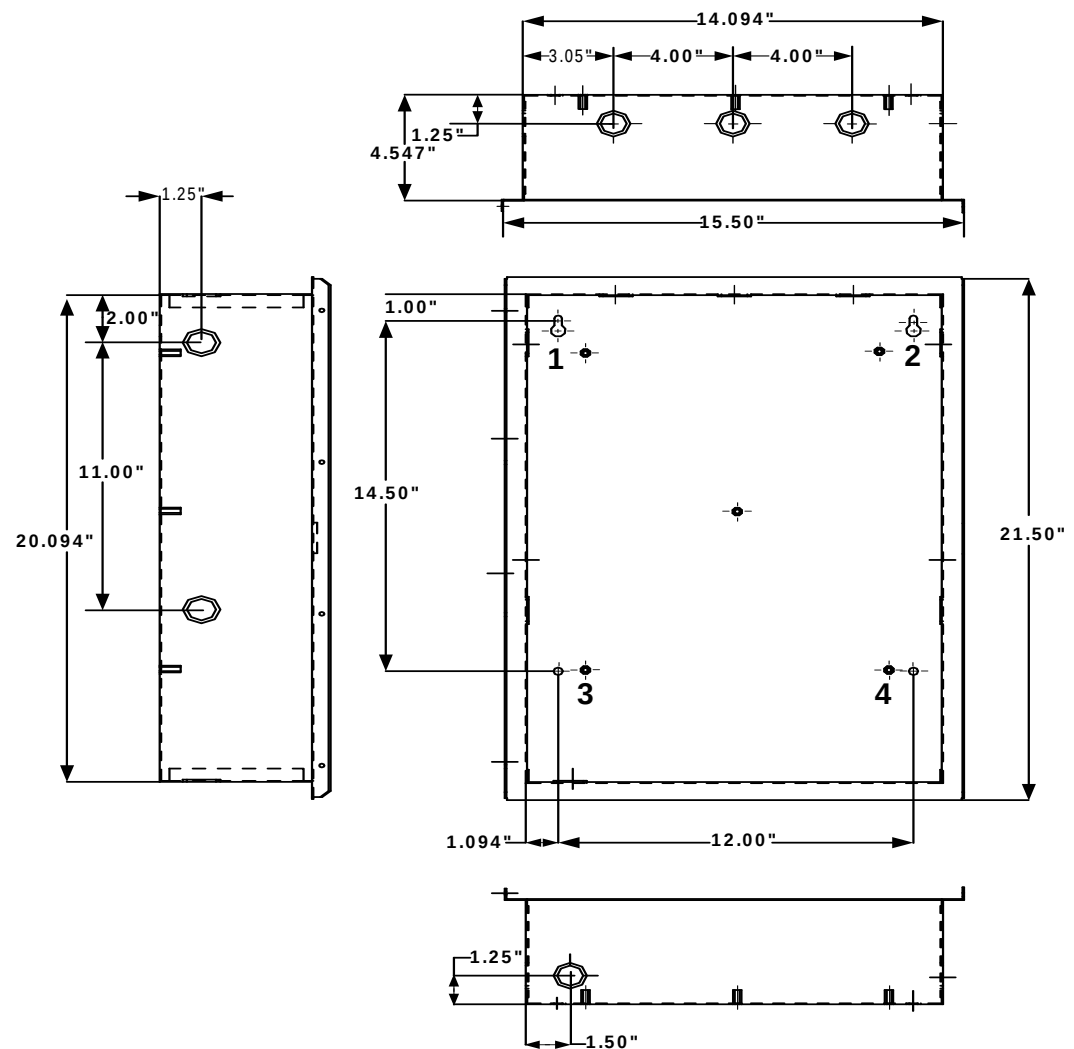

Figure 2.5.7.1.1 B-Slim Cabinet Dimensions
1. Insert the keyswitch to the LCD-E3 Mounting Plate and secure with one (1) nut, (3/4" x 24 THD HEX) as shown in Location 1 of Figure 2.5.7.2.1.